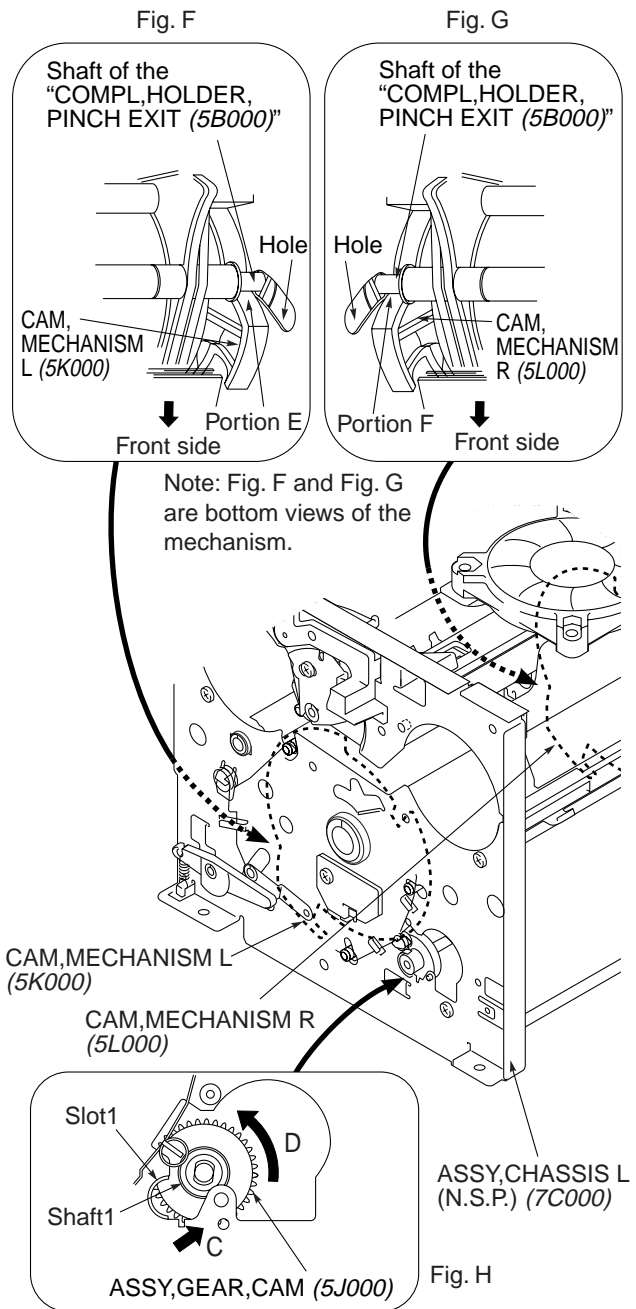

Fig. 3-9-3
1. Install the "ASSY,GEAR,CAM (5J000)" in the designated position, move gear on the "ASSY,CHASSIS L (7C000)" side approximately 5mm in the direction C as shown in Fig. H of Fig. 3-9-3 and hold it with your right hand.
2. Rotate the gear with your forefinger in the direction D ("CAM,MECHANISM R (5L000)" rotates too) as shown in Fig. H of Fig. 3-9-3. Then press portion F on the "CAM,MECHANISM R (5L000)" against the shaft on the "COMPL,HOLDER,PINCH EXIT (5B000)" as shown in Fig. G of Fig. 3-9-3.
3. While keeping the state in step 2 above, rotate the "CAM,MECHANISM L (5K000)" with your finger and press portion E on it against the shaft of the "COMPL,HOLDER,PINCH EXIT (5B000)" as shown in Fig. F of Fig. 3-9-3.
4. While keeping the state in steps 2 and 3 above, install shaft 1 on the "ASSY,GEAR,CAM (5J000)" into slot 1 on the "ASSY,CHASSIS L (7C000)" without a gap. (Refer to Fig. H of Fig. 3-9-3.)